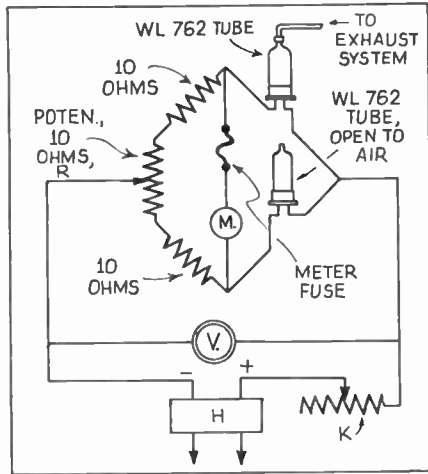

Fig. 6, Circuit for anti-surge tube.
***Supervisory Control Protector Tube; Type KX642.** Wherever protection against overload is desired, as for instance in radio transmitting stations for switching operations and wherever remote meter readings are taken, as well as in radio stations as a protection to condensers, transformers, and testing equipment, the "supervisory control tube" may be connected across the line and the 3rd connection grounded, as shown in Fig. 6 to serve as protection to equipment and operator in the event of surges exceeding 300 V.